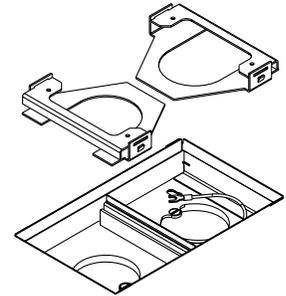

Figure 2
2. Align adaptor with the top opening of the preset (see Figure 2).